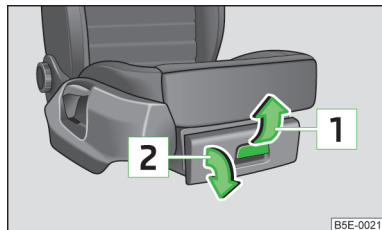

Fig. 70
- Pull the handle to position [1] » Fig. 70.